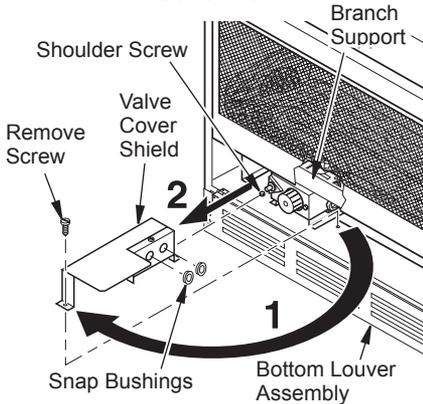

Figure 13 - Removing Valve Cover Shield Installing Blower Assembly
1. Open bottom louver assembly by swinging assembly down (see Figure 13, page 13).
2. Using short Phillips screwdriver, remove the screw under center of branch support. Rotate valve cover shield clockwise and slide out. **IMPORTANT:** Do not remove shoulder screw on the left side of valve cover shield. Slide valve cover shield off of shoulder screw (see Figure 13, page 13).
8. Reinstall upper louver assembly and hood if previously removed, (see Figure 13, page 12). Close lower louver door.